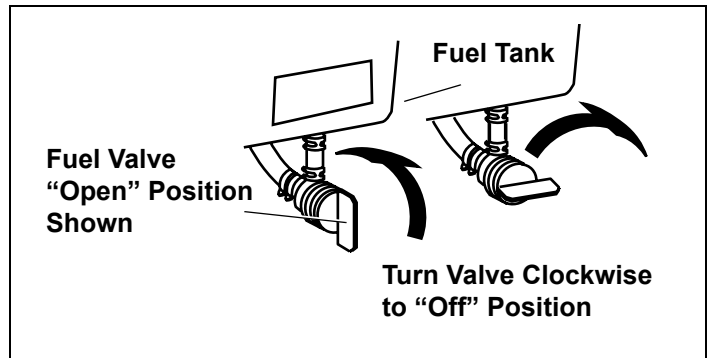

Figure 10. Fuel Valve Positions
6. Be sure fuel valve (optional) is open. See Figure 10.
2. Be sure fuel valve, if present (see manufacturer's instructions), is open. Turn counterclockwise to "ON" position. See Figure 10.
2. Be sure fuel valve, if present is open and all switches are on. Turn counterclockwise to "ON". See Figure 10.